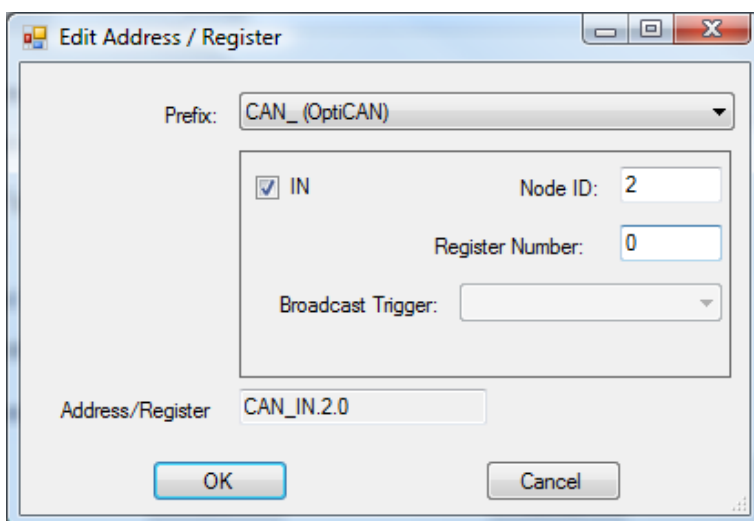

Figure 2-14 - Edit Address / Register Dialog
5. Click the **EDIT** button to the right of the *Address/Register* box. This will open the Edit Address / Register dialog box. Refer to figure 2-14.